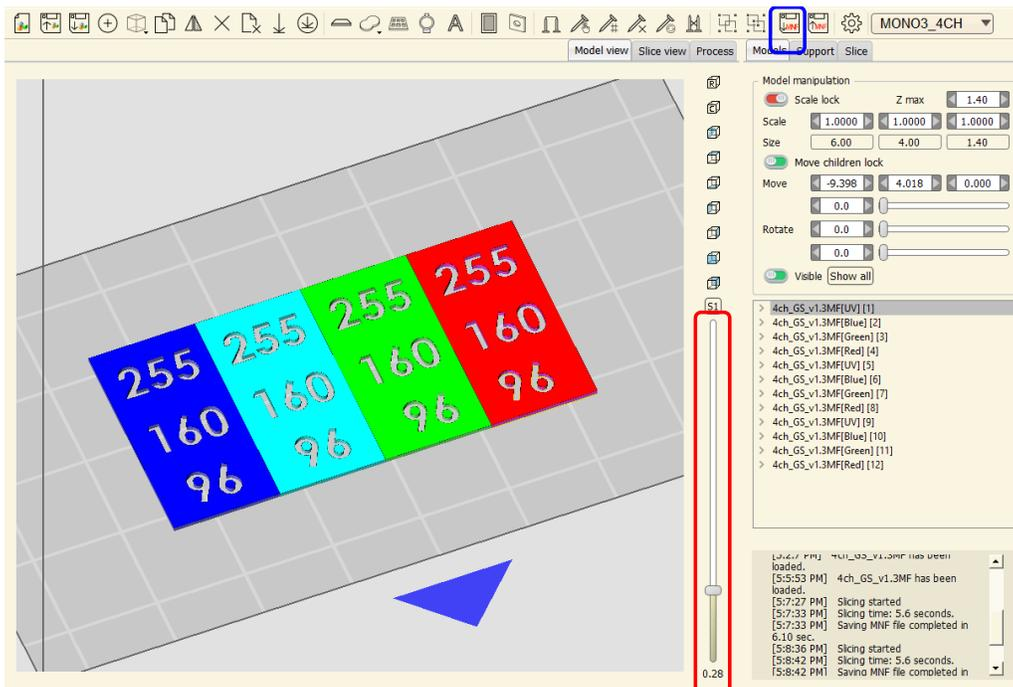

Fig. 11. Slice preview of multi-color model
- Press the “Export MNF” button to start slicing (blue box in Fig. 11)